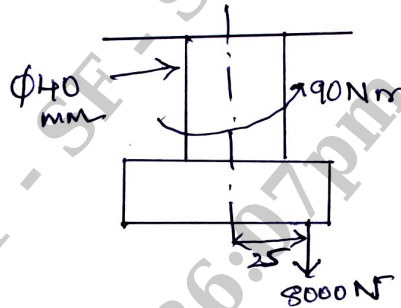

Fig.Q1(b)
b. A 40mm diameter steel rod supports 8.0kN load and in addition is subjected to a torsional load of 90Nm as shown in Fig.Q1(b). Determine the maximum tensile and maximum shear stress.